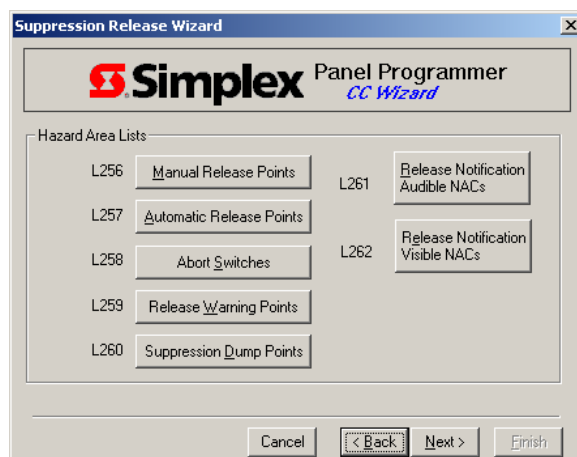

Figure 16-7. Tag List Buttons
3. Click OK when you are finished selecting points. The screen containing the Tag List buttons (Figure 16-7) reappears. Click the Next button at the bottom of this screen when all points associated with this hazard area have been chosen.